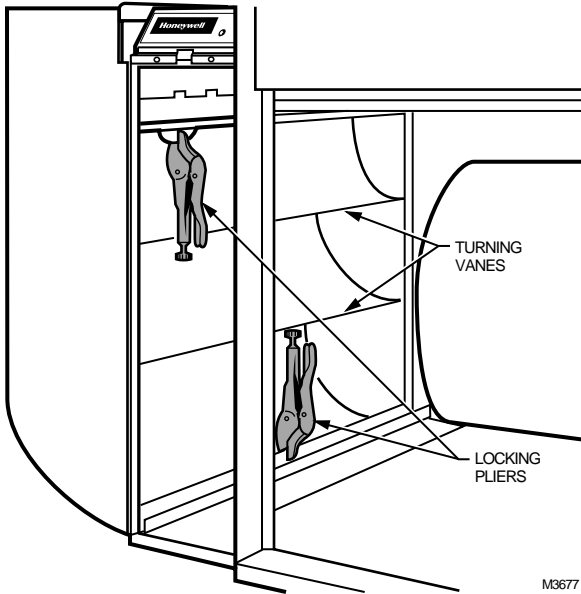

Fig. 7. Connect ductwork to air cleaner. Note turning vanes. Locking pliers hold duct to air cleaner cabinet during installation.
- Fasten the other side of the cabinet to the elbow using sheet metal screws, rivets, or slip joints as appropriate. If drilling holes, use locking pliers to help hold the unit in place during drilling. See Fig. 7.